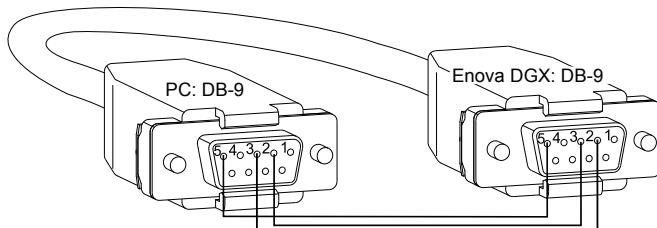

FIG. 102 RS-232 pinout for null modem serial cable
- Serial connection (DB-9)** – Attach a null modem serial cable without hardware flow control to the serial Control port (DB-9 connector) on the enclosure. Use a serial cable that matches the RS-232 pin diagram in FIG. 102. Enova DGX equipment uses pins 2, 3, and 5 only.